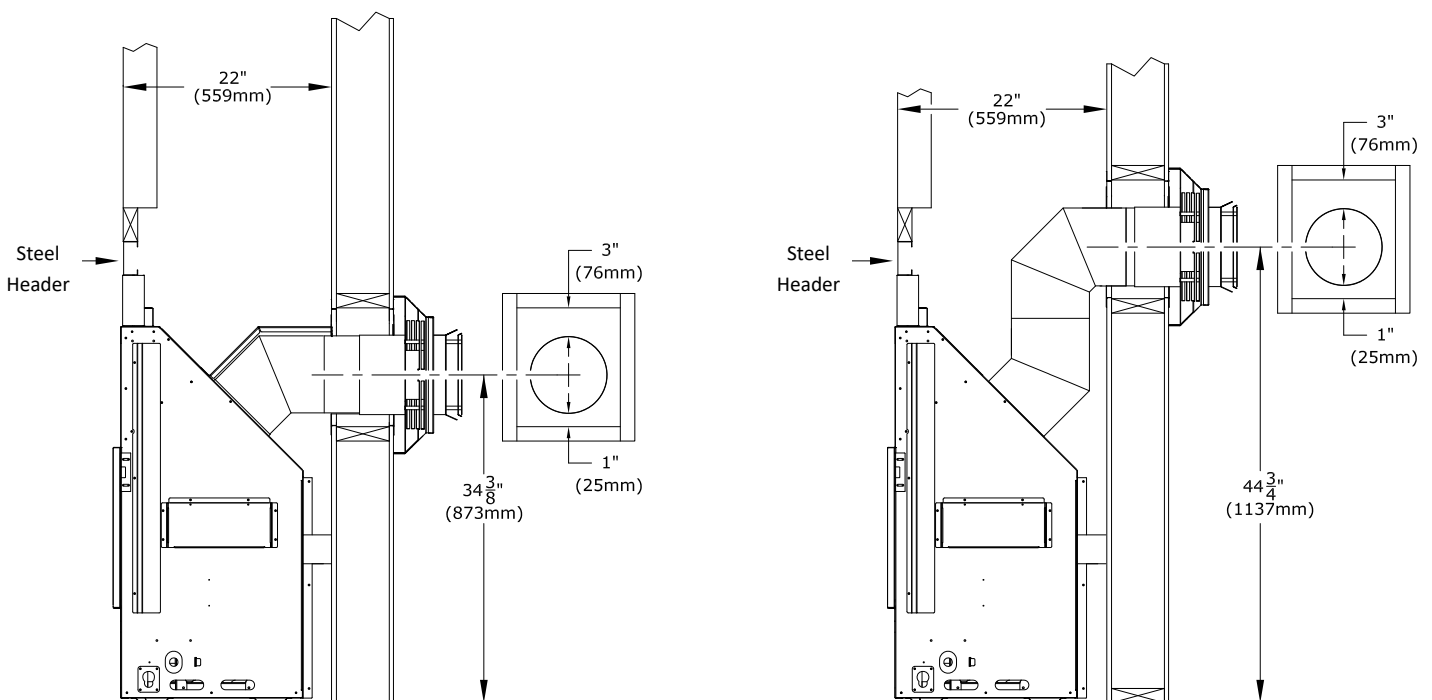

Figure 3.7 - WPT Framing
1. Measure from the floor level of the fireplace to the center of where the vent pipe will penetrate the wall. The dimensions shown in Figure 3.7 are calculated using Simpson DuraVent Pipe.